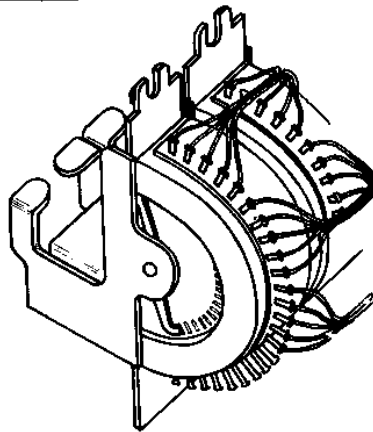

FIG. 10. UNISELECTOR MULTIPLE WIRING.
2.12 Wiring of Uniselector Multiples. This should be done as shown in Fig. 10.